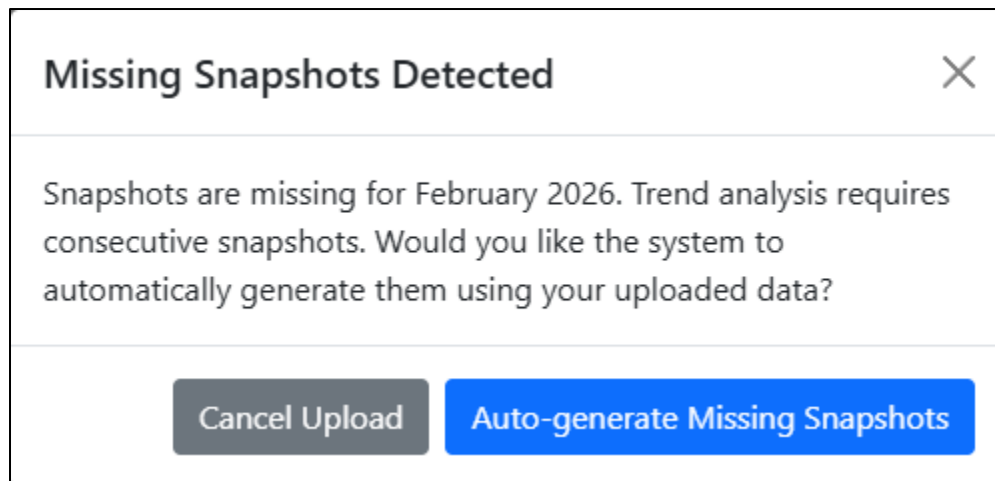

Figure 29: Missing Snapshots Detected prompt
- **Commit Summary:** Once all the validation is done, you will arrive at the Commit Summary window (fig. 29 and 30). At this window, you may receive messages describing issues with an unsuccessful commit or a summary of a successful commit. Unsuccessful commits do not count toward commit limits and result in no data being written to the database.